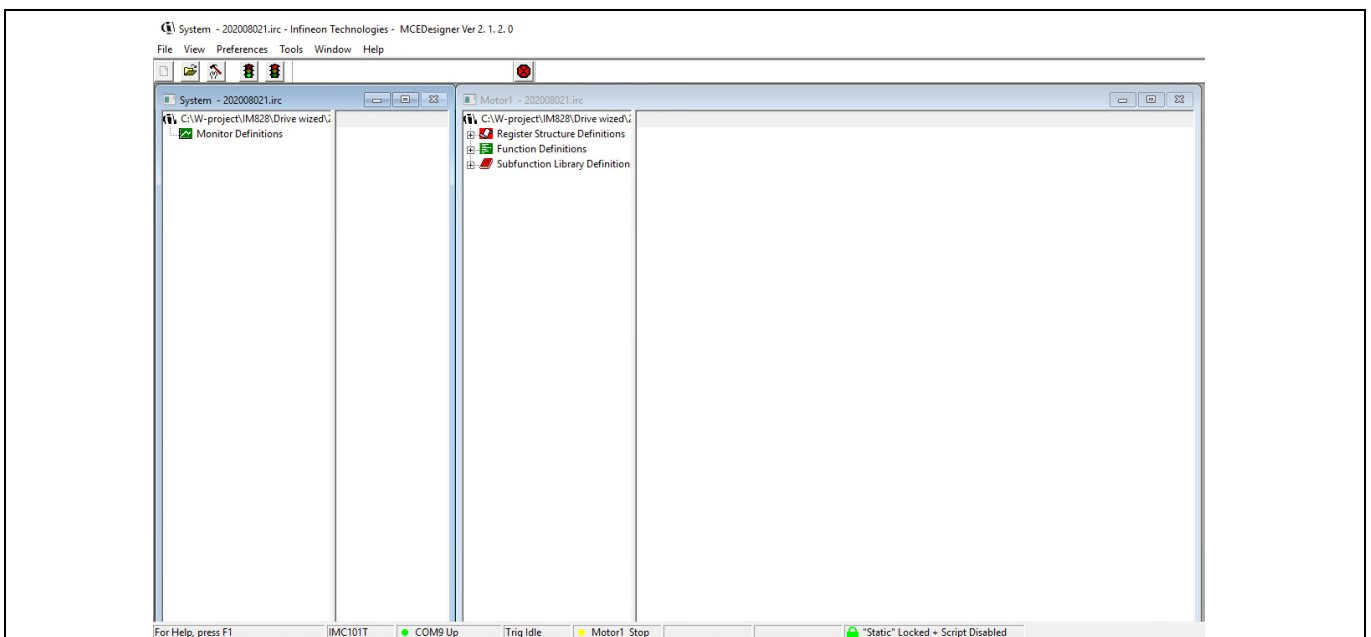

**Figure 5** Verify and save page of the MCEWizard
4. Connect EVAL-M1-101T’s M1 20-pin interface connector (J2) to power board (for example EVAL-M1-IM828-A, see Figure 5).
After all the MCEWizard questions are answered, the “Verify & Save Page” will be shown as in Figure 5.